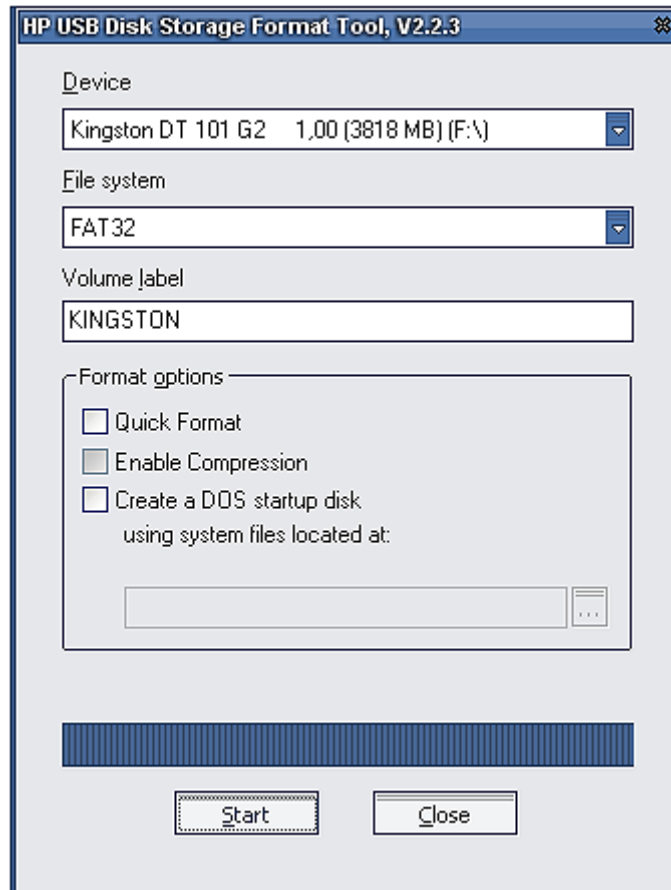

Figure 2: flash drive formatting.
- i. Format USB flash drive using HP USB Disk Storage Format Tool (<http://www.myaudience.com/downloads/utills/HPUSBDisk.exe>), file system – FAT32 (Figure 2)